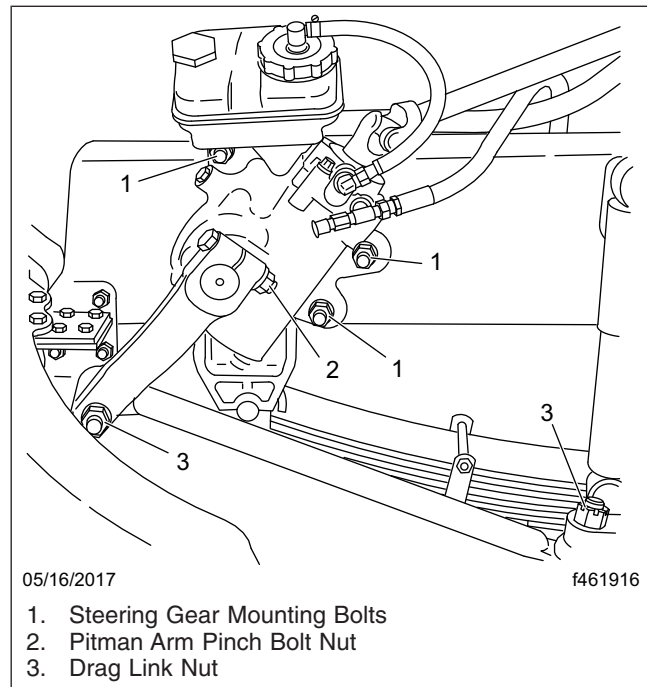

Fig. 23.14, Integral Steering Gear Fasteners
6.1 Inspect tie rods, steering arms, and the drag link for signs of looseness (i.e., shiny spots or rust tracks). See Fig. 23.14.